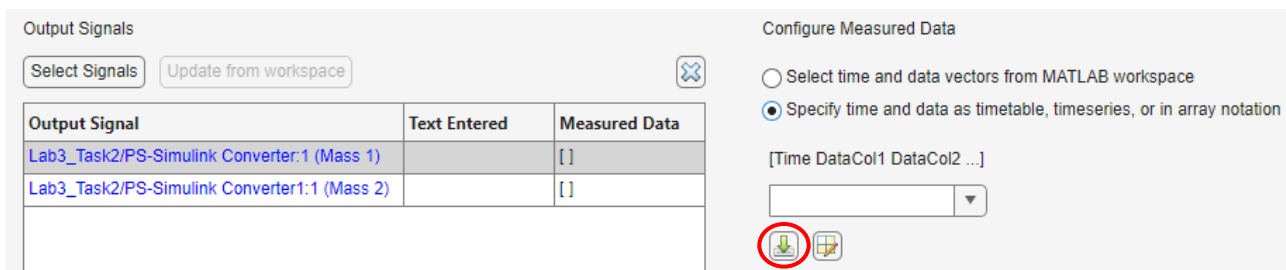

Figure 7: Import Data Button for Output Signals
6. Now, we will need to import the experimental data from the physical system. The data for both Mass 1 and Mass 2 will need to be imported. We will start with Mass 1. In the “Outputs” section, click on the green download arrow icon, as shown in figure 7.